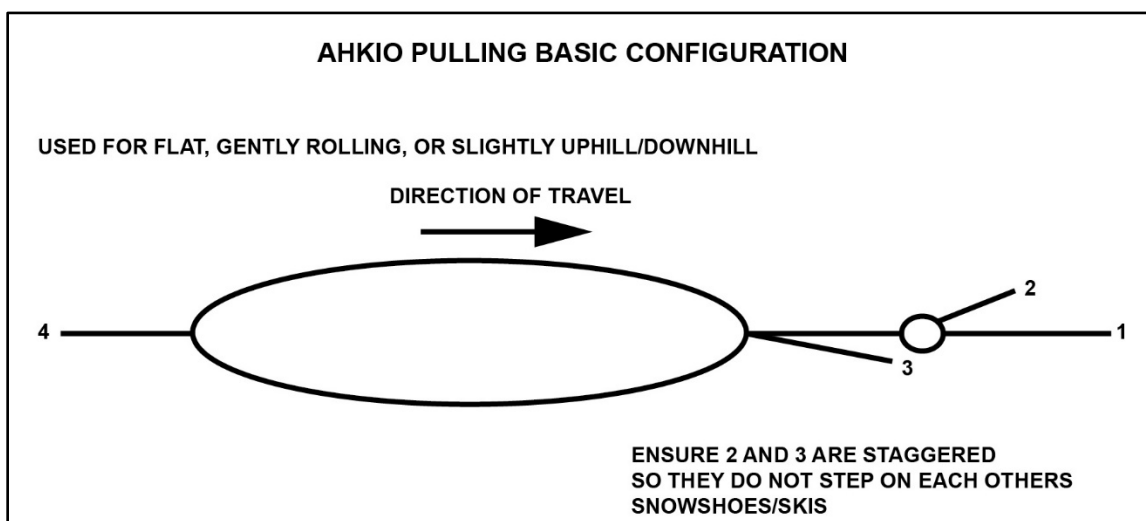

Figure 6-3. Basic configuration for hauling a scow sled
- Hook one of the 6-foot (1.8 meter) traces directly to the sled for the No. 3 position (see figure 6-3).